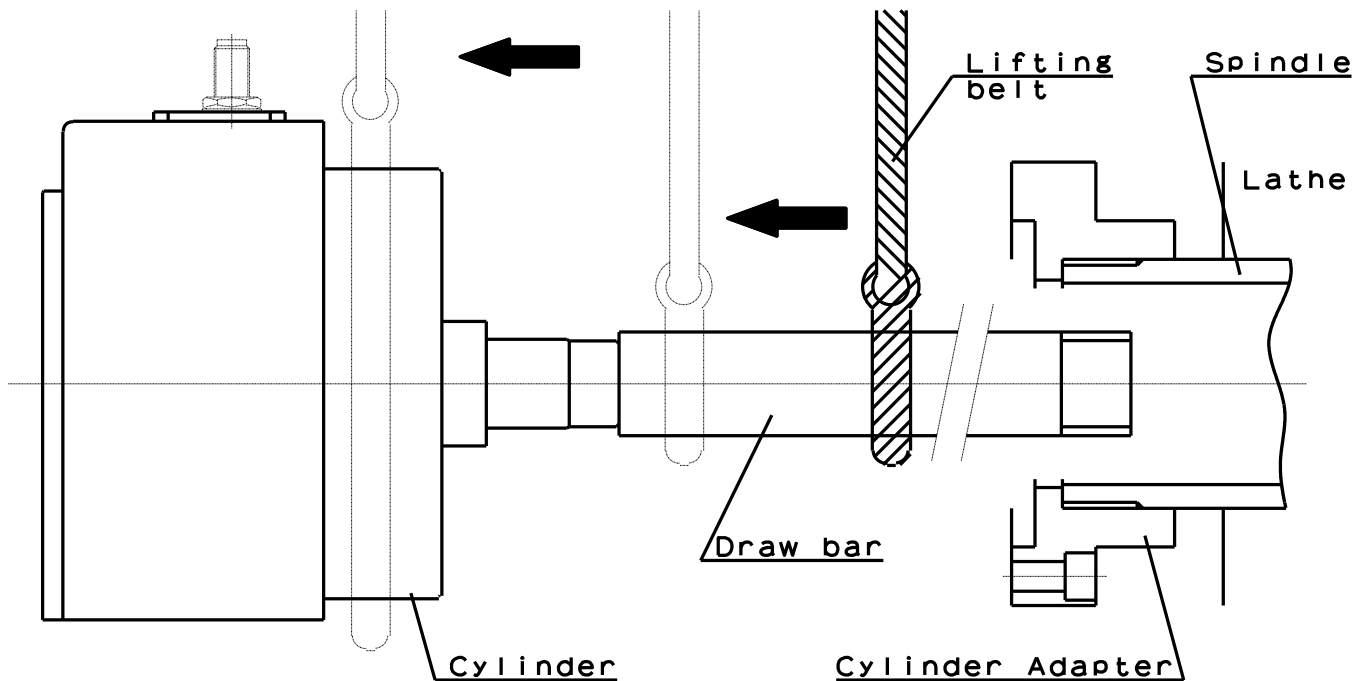

Fig.16
- When removing/installing the cylinder, use a lifting belt and perform as follows. (Fig.16)